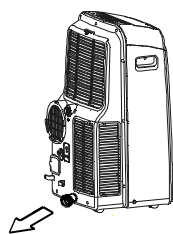

Fig.22
- When the water level of the bottom tray reaches a predetermined level, the unit beeps 8 times, the digital display area shows "P1" . At this time the air conditioning/dehumidification process will immediately stop. However, the fan motor will continue to operate(this is normal). Carefully move the unit to a drain location, remove the bottom drain plug and let the water drain away(Fig.22). Reinstall the bottom drain plug and restart the machine until the "P1" symbol disappears. If the error repeats, call for service.
- Remove the plug from the bottom drain outlet, all the water in the bottom tray would drain out (See Fig.22).